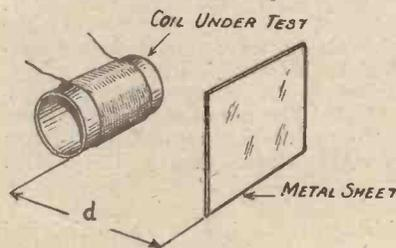
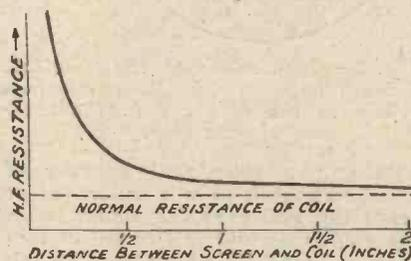

Fig. 1. — The distance between the screen and the coil has a considerable bearing on the efficiency of the latter.
Fig. 2. — Illustrating graphically the effect on the coil resistance of placing the screen in different positions.
tances as shown in Fig. 1. It was then possible to observe the effect of the distance upon the resistance of the coil, and this is shown in the curve given in Fig. 2.
A similar series of experiments was carried out with the screen at the end of the coil, instead of at the side as shown in Fig. 1, and here it was found that the distance at which the losses began to increase rapidly depended largely upon the shape of the coil. With a short, fat coil, it is necessary to have a distance of 1 1/2 in., but with a somewhat longer coil a distance of 1 in. sufficed.
This question of parasitics is a very important one, since it becomes exceedingly difficult to use more than one or two stages of high-frequency amplification if a circuit is at all liable to generate them. Even the circuit shown in Fig. 1 might conceivably develop trouble of this description if four or more stages were employed. I have used four stages successfully with this circuit, but it is possible that a slightly different lay-out might have introduced the trouble that I was trying to avoid.
*Fig. 1 (left) and Fig. 2 (right).—In order to simplify these diagrams, the H.T. battery is shown connected to L.T. —, the L.T. battery being omitted. In practice H.T. — would go to L.T. +.*
The solution to the problem is shown in Fig. 2, and it appears so ridiculously simple that I can almost hear you say, "Why, anyone could have thought of that!" And so they could—but, as far as I am aware, they have not done so.
As will be seen from the simplified circuit in Fig. 2, what has been done is, that the choke (or resistance if preferred—some circuits work better with
If, therefore, the sole function of the choke is to prevent the valve from getting blocked, it does not much matter at what point on L1 it is connected. If it is to be removed from the centre, then the logical place to put it is at the bottom of the coil as shown in Fig. 2, and this is the basic circuit which is used in the receiver which is described here.